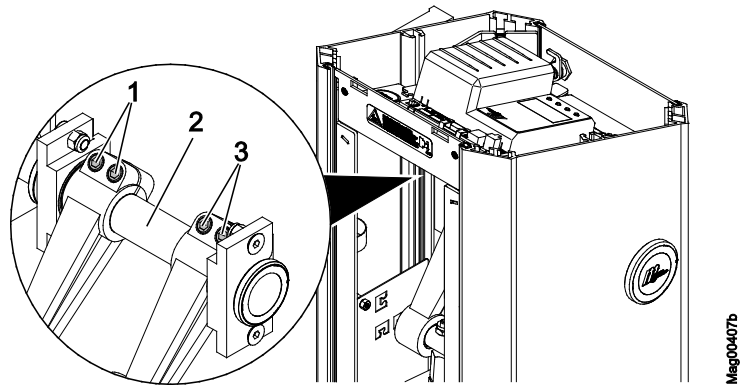

Fig. 33: Access XL – Loosen hexagon socket screw
- Access XL: See page 75, Fig. 33.